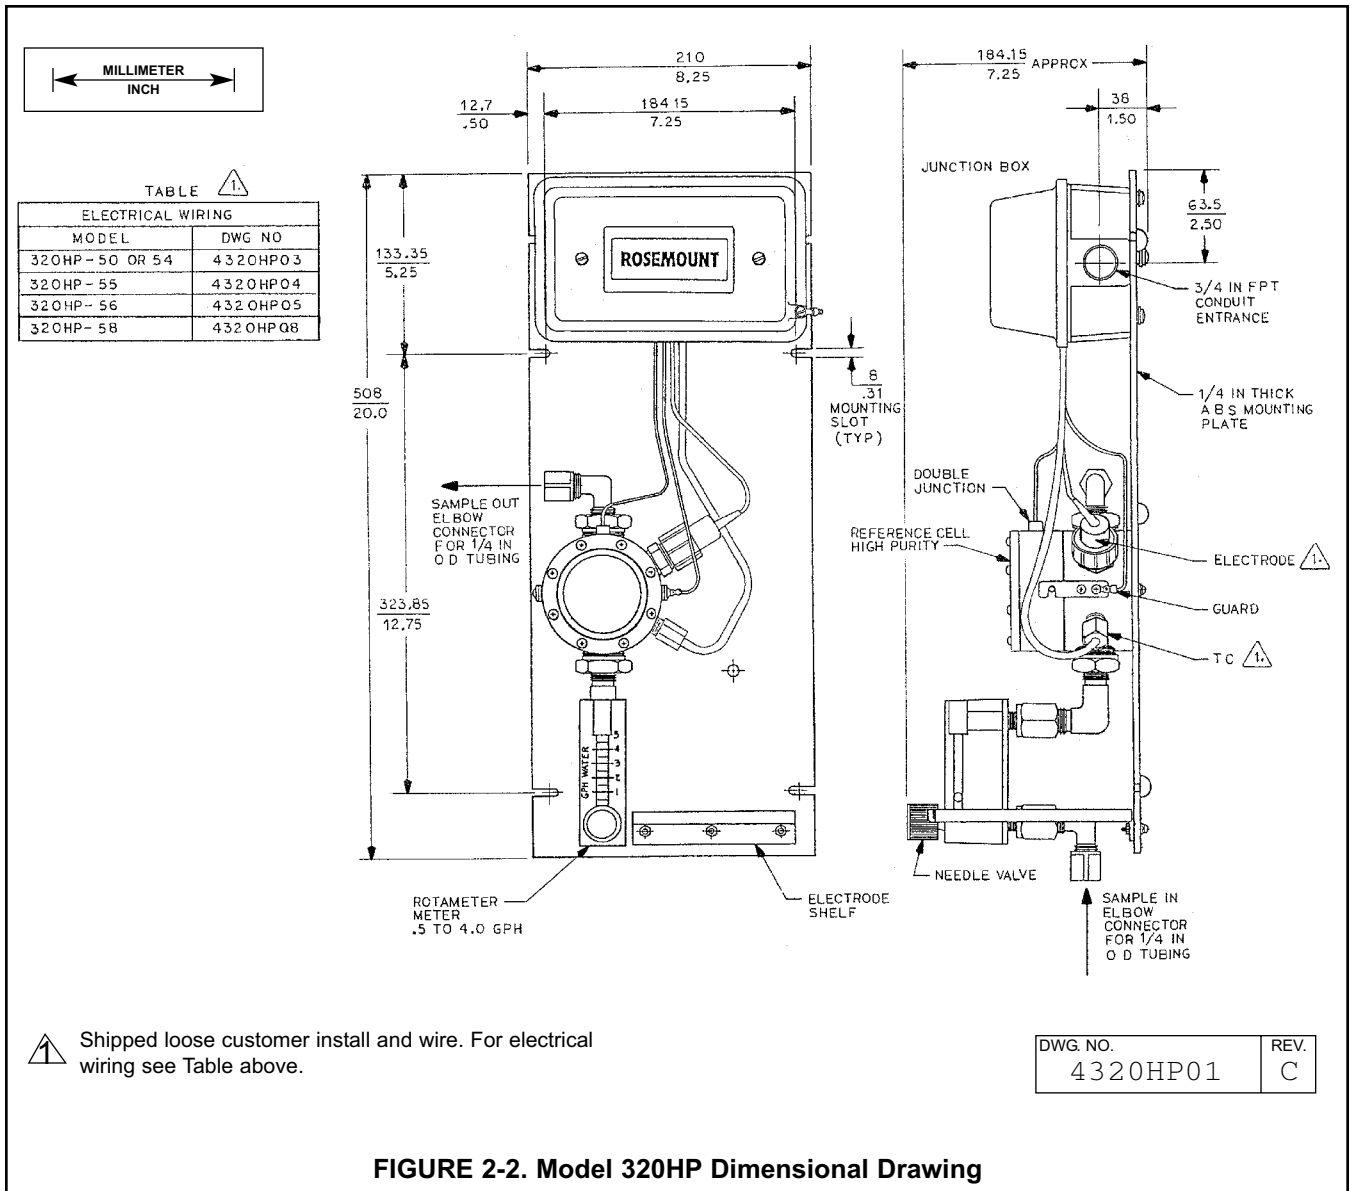

FIGURE 2-2. Model 320HP Dimensional Drawing
3. Install sensor panel so the process flow will enter at the bottom of the cell and exit from the top (Figure 2-2). Make sure that the panel is securely attached to the mounting surface.
Refer to Figure 2-2 and proceed as follows:
2. Install the pH electrode into the sensor's flow cell as shown in Figure 2-2.
1. Place the sensor on stream. Adjust rotometer to the proper flow rate (see Figure 2-2). Allow 2 to 3 hours for full sensor stabilization.